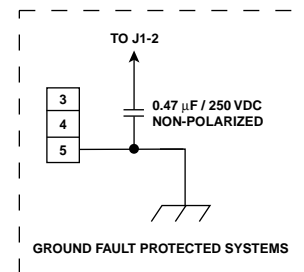

Figure 10—A Typical System, X3300 Detectors Wired to R7405 Controller
- Figure 10 – A Typical System, X3300 Detectors Wired to R7405 Controller